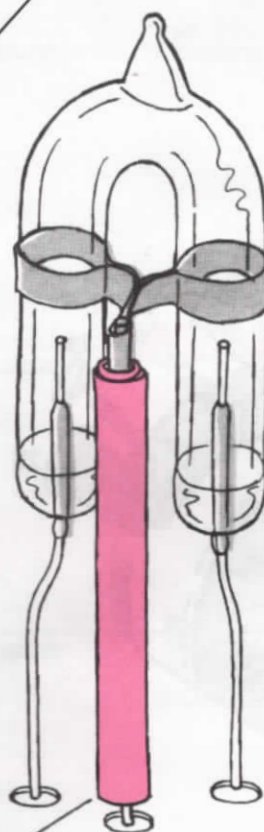

FIG. 43
- 17. Place the 1-inch long fiber spacer over the middle, or trigger, lead of V2, as shown in Figure 43.